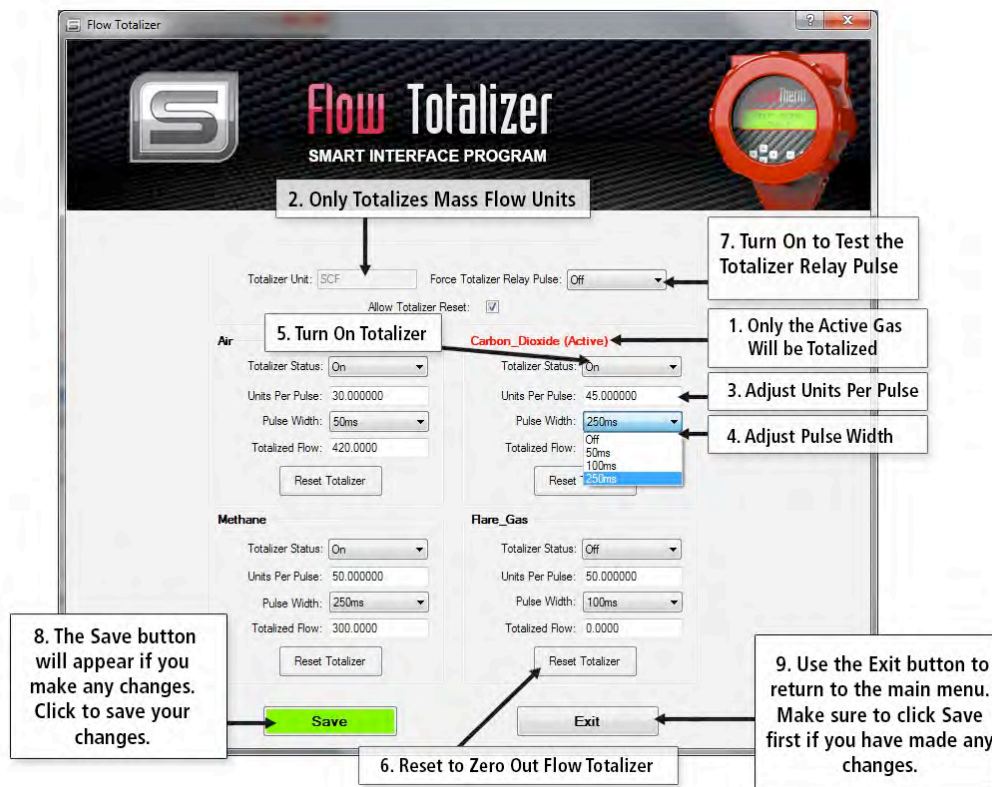

Figure 5. Setting Up a Gas to Totalize
**Summary: Setting Up A Gas To Totalize (see Figure 5)**